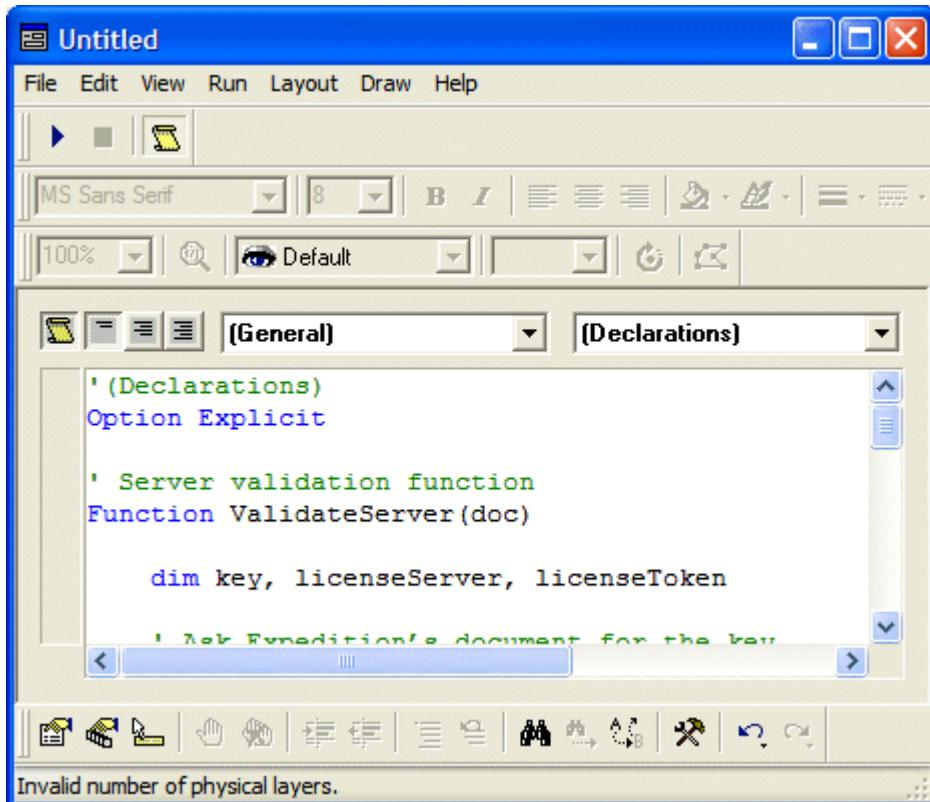

Figure 4-21. Including the server validation code in the (General) section.
- 9) Place your cursor between the *(Declarations)* and *End of (Declarations)* comments, key-in the *Option Explicit* command (this was introduced in Chapter 2) and then paste in the server validation code (Figure 4-21).